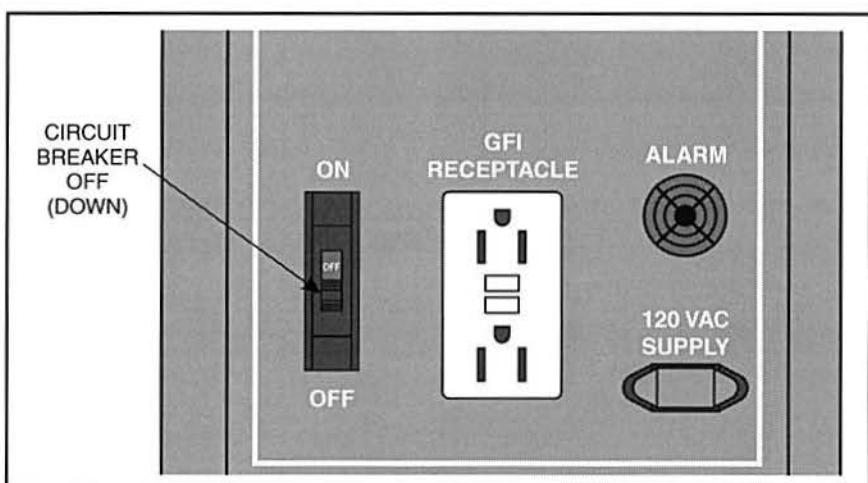

Figure 38. Main Circuit Breaker in the OFF Position
- B. Make sure the circuit breaker is in the **OFF** or down position, as figure 38 shows.